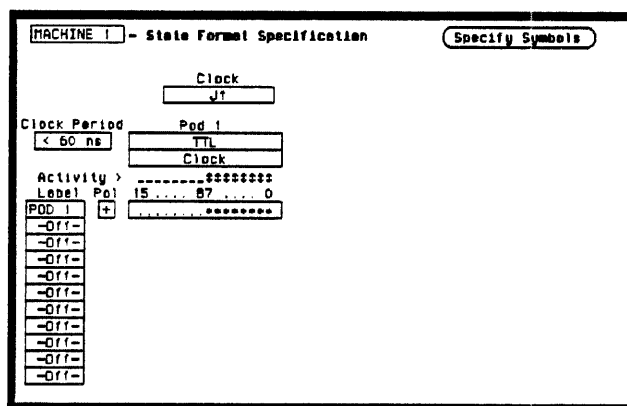

Figure 3-12. State Format Specification for Data Test 2
- In the **State Format Specification** assign **Clock Period** < 60 ns, and rising edge of J clock. Also, assign lower 8 channels of the pod under test to a label as in figure 3-12.
4. In the **State Format Specification** menu assign **Clock Period < 60 ns**, and falling edge of J clock. Also, assign the lower 8 channels of the pod under test to a label as in figure 3-12.